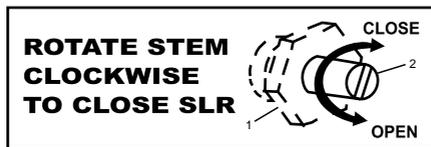

Figure7: SLR setting
- i) After flushing of lines is complete, ensure stop by-pass valve (6) closed and stop valve (2) opened.
6.3 Setting of Steam Lock Release (SLR) : (Refer to Figure 7)